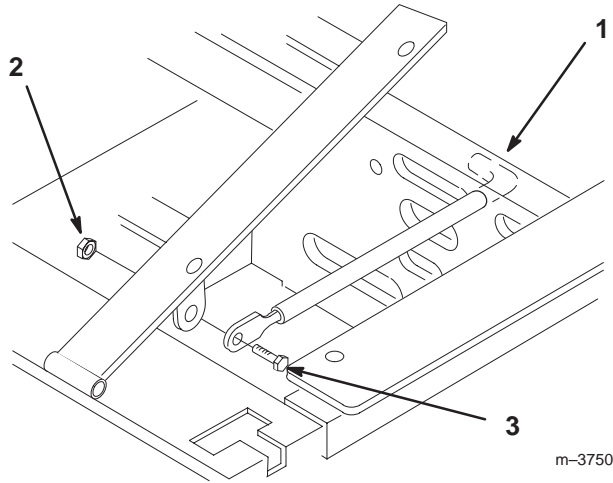

Figure 3
1. Tilt seat up. Remove the locknut (5/16 in.) from bolt attaching seat retaining rod to seat frame (Fig. 3).
2. Remove retaining rod from seat and insert the L shaped end of the rod into the hole directly above the left-side hydraulic pump (Fig. 3).
3. Place the seat retaining rod to the outside of the mounting tab of the seat frame and secure with a bolt (5/16 x 1 in.) bolt and locknut 5/16 in. (Fig. 3).